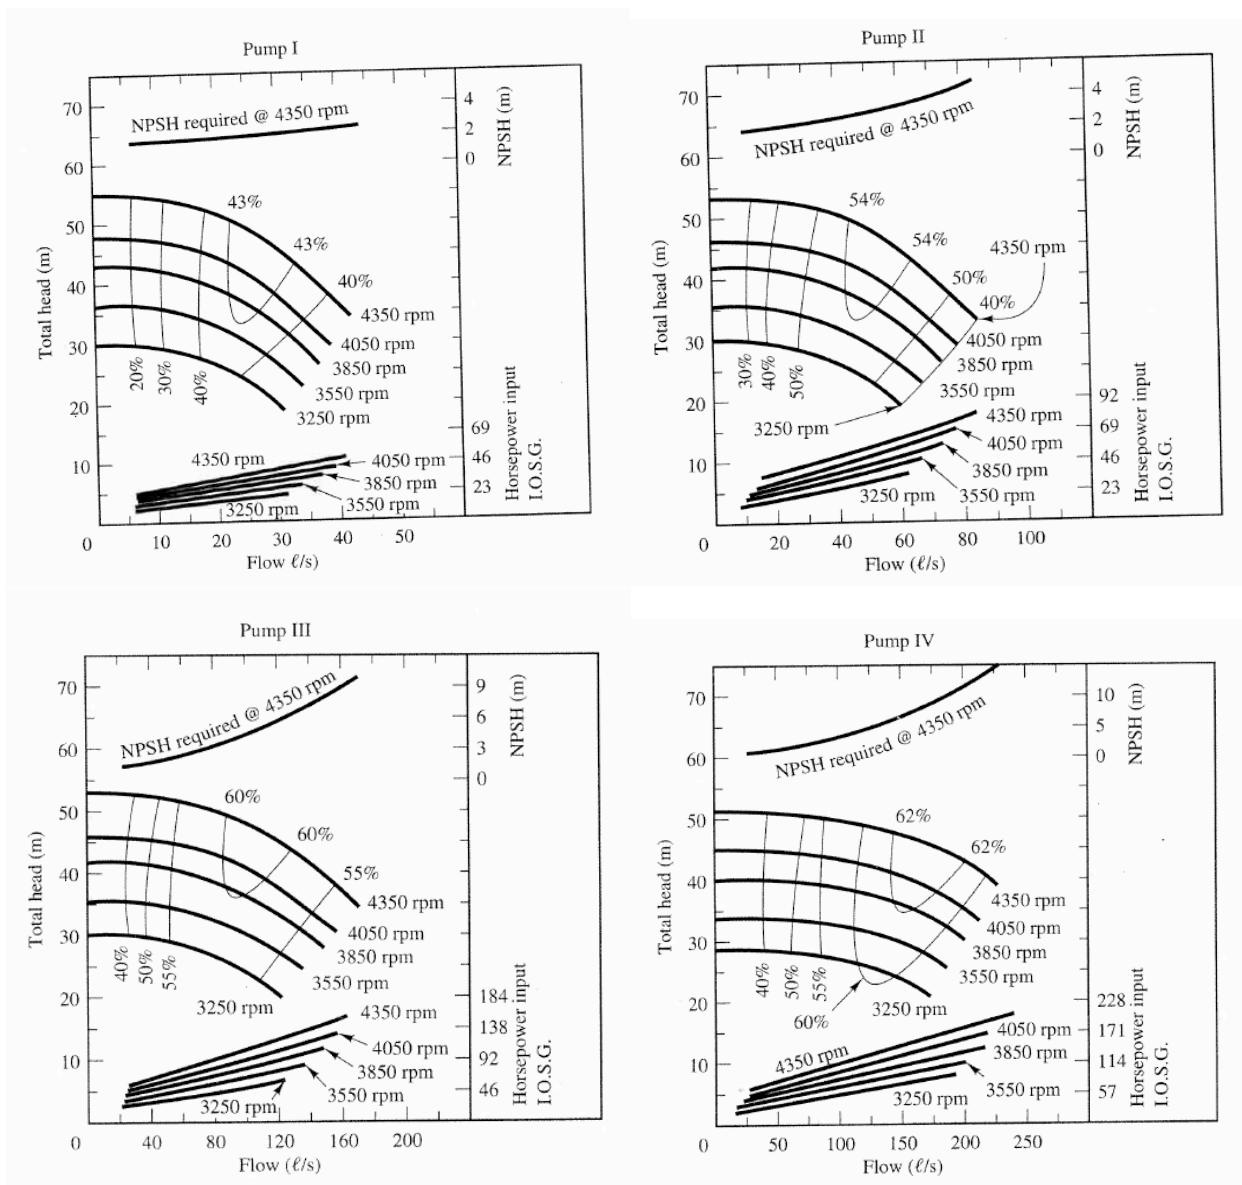

Figure 7: Pump curves for four different pumps. Each pump has five different impeller speeds for 20 possible different combinations.
- Select a pump from one of the four on Figure 7 below. Indicate the operating point on the pump you select.